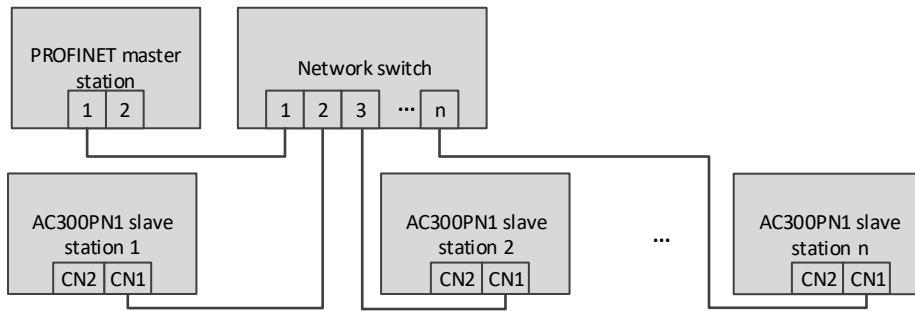

Figure 3.2 Schematic diagram of star connection
2. When AC300PN1 card is used, in order to ensure the accuracy and reliability of the signal, the distance of the communication network lines between the two cards should not exceed 100 meters. Due to the long wiring, the signal attenuation and anti-interference performance are reduced. It is recommended to use the switching unit network (as shown in Figure 3.2)